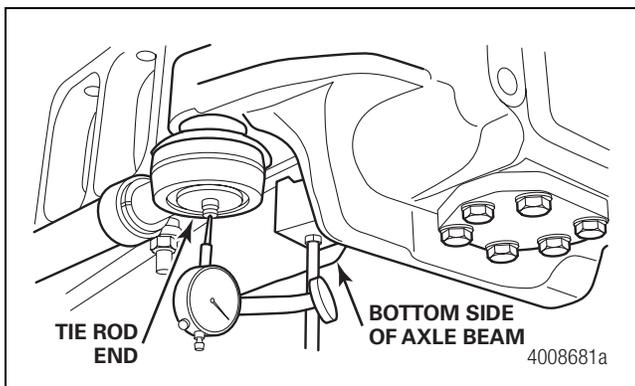

Figure 10.16
5. Place the indicator tip near the tie rod end grease fitting. Figure 10.16. Set the dial indicator on **ZERO**.